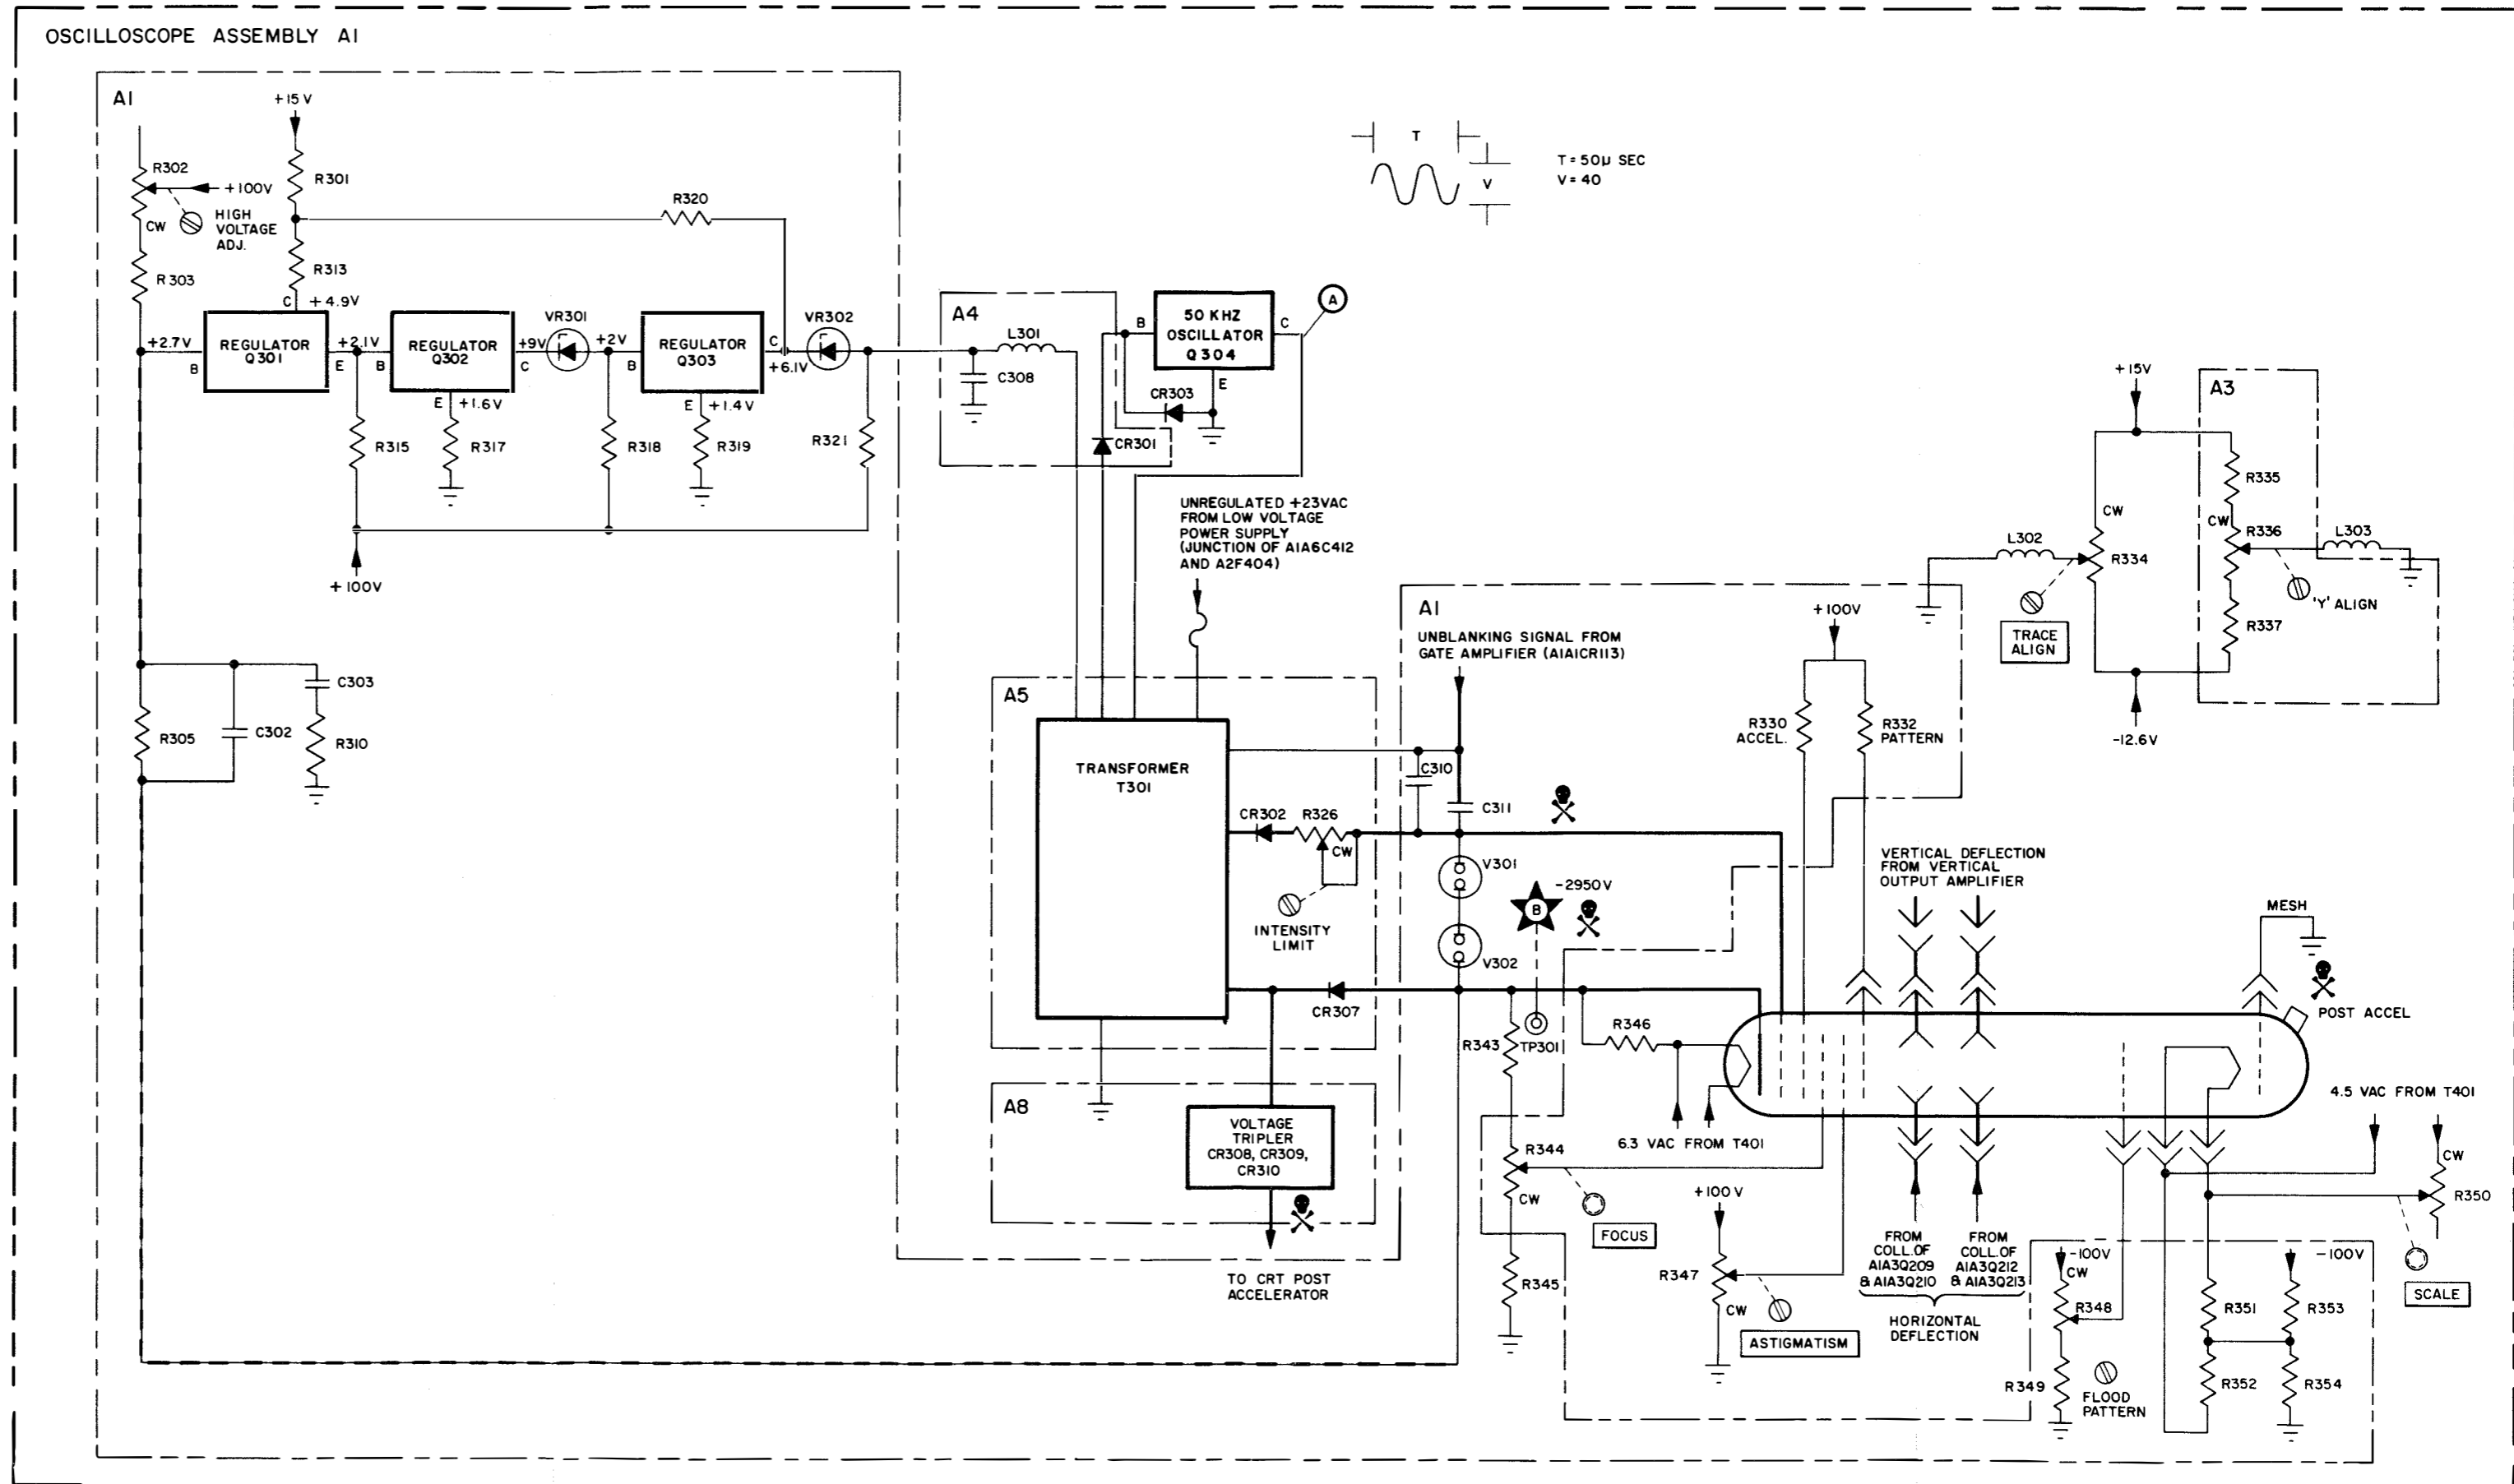

Figure 4-4. High Voltage Power Supply Functional and Servicing Block Diagram
a. HIGH VOLTAGE POWER SUPPLY FUNCTIONAL DESCRIPTION. - The +23 volt unregulated output from the low voltage power supply provides operating power through fuse A1F301 to a transformer-coupled oscillator consisting of A1A5T301 and A1Q304. A1A4CR303 insures A1Q304 base-emitter breakdown protection in a reverse bias condition. See figure 4-4. The 50 kHz output of the oscillator is coupled from two secondary windings on A1A5T301 to two half-wave rectifiers and a voltage tripler. The output of half-wave rectifier A1A5CR302 is filtered, compared with the unblanking voltage, and applied to the control grid of the CRT to provide intensity control of the CRT. Intensity limit A1A5R326 adjusts the dc potential on the grid. The -2950 volt output of second half-wave rectifier A1A5CR307 is filtered and applied to the cathode of the CRT and through FOCUS control A1R344 to the focus grid of the CRT. Voltage limiters A1A1V301 and A1A1V302 are connected in series between the cathode and control grid of the CRT to limit the maximum potential difference between these elements to 140 volts in the event one of the elements is shorted to ground or to a positive potential. The voltage tripler consisting of diodes A1A8CR308, A1A8CR309, A1A8CR310 and associated capacitors produces a 9 kv output (approximate) and applies this voltage to the CRT post-accelerator to provide the necessary beam accelerating potential.
b. HIGH VOLTAGE POWER SUPPLY TROUBLE SHOOTING. - The trouble-shooting chart for the high voltage power supply functional section is provided in table 4-4 and the servicing block diagram is shown in figure 4-4. Prior to trouble shooting the high voltage power supply, insure that the low voltage power supply is functioning properly as its' operation is essential to obtain the high voltage output. If the low voltage supplies are functioning properly the oscillator should be checked next. If the oscillator is not functioning (in addition to checking the oscillator and regulator circuit), check for a shorted component in the feedback path (A1A1R305, A1A1C302, A1A1R310 and A1A1C303) as this could cause the regulator to cutoff the oscillator. If the oscillator is operating properly, the -2950 volt supply should be checked next because this output controls the regulator. Exercise extreme care when trouble shooting this section of the supply because it contains voltages dangerous to life. When taking voltage measurements in this section, always use a 100:1 divider probe to protect the test instrument. Always keep one hand away from the test setup to prevent a good ground path through the body in the event of accidental contact with these voltages.
c. USEFUL ILLUSTRATIONS. - Illustrations useful in maintaining this functional section are: Figures 4-4, 5-10, 5-13, 5-16, 5-17 and 5-30.